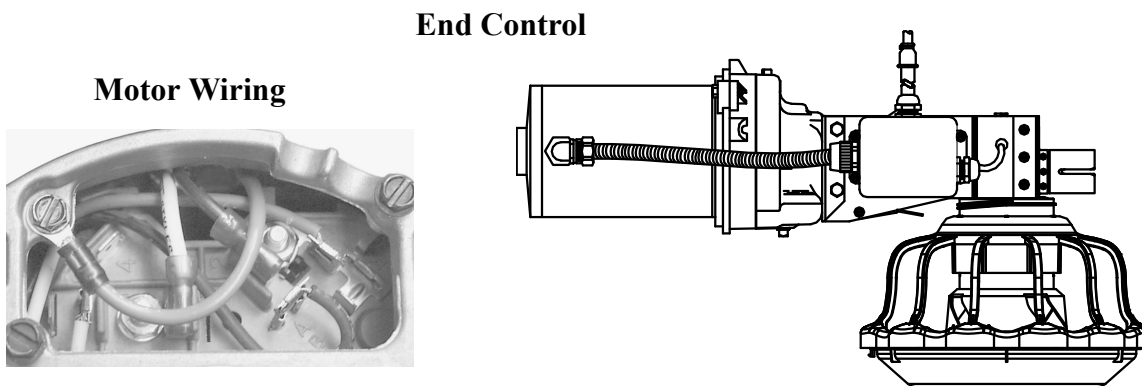

Figure 50. Wiring the Motor
8. Install the Metal Water Tight Connector (**item 1**) in the Feed Line Motor (**item 2**). Cut the Flex Conduit (**item 3**) to length. Slide the wires from the end control through the Flex Conduit (**item 3**). Install the Flex Conduit (**item 3**) in the connectors. Connect the wires to the Feed Line Motor (**item 2**), see **figure 50**.